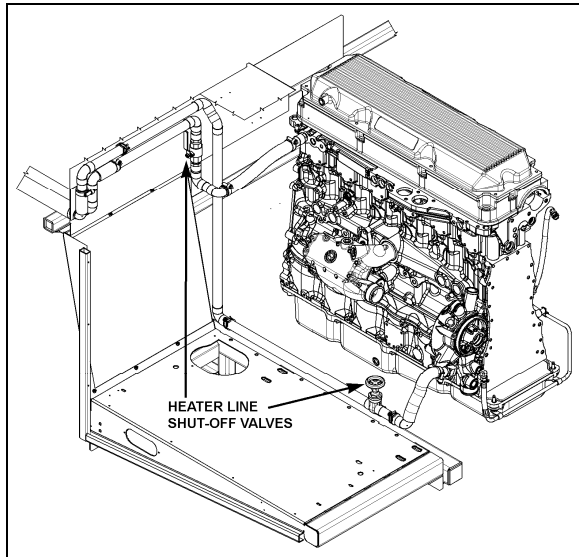

FIGURE 39: HEATER LINE SHUT-OFF VALVES 22326
**On X3 Coaches**, the valves are located in engine compartment. One is on the L.H. side of compartment in front of the radiator and the other valve is located under the radiator fan gearbox (Fig. 39).